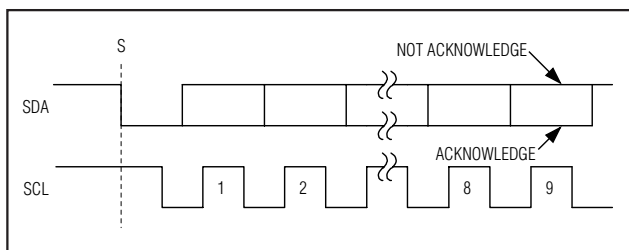

Figure 6. Acknowledge Bits
Data transfers are acknowledged with an acknowledge bit (A) or a not-acknowledge bit ( $\bar{A}$ ). Both the master and the MAX1136–MAX1139 (slave) generate acknowledge bits. To generate an acknowledge, the receiving device must pull SDA low before the rising edge of the acknowledge-related clock pulse (ninth pulse) and keep it low during the high period of the clock pulse (Figure 6). To generate a not-acknowledge, the receiver allows SDA to be pulled high before the rising edge of the acknowledge-related clock pulse and leaves SDA high during the high period of the clock pulse. Monitoring the acknowledge bits allows for detection of unsuccessful data transfers. An unsuccessful data transfer happens if a receiving device is busy or if a system fault has occurred. In the event of an unsuccessful data transfer the bus master should reattempt communication at a later time.